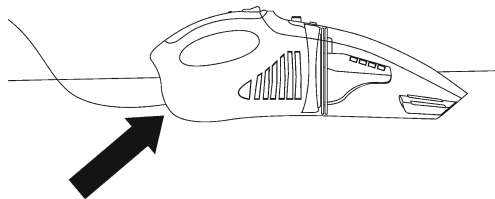

Abb. 8
- d) Alternatively, the appliance may also be recharged directly via the charging port (1) (Fig. 8).